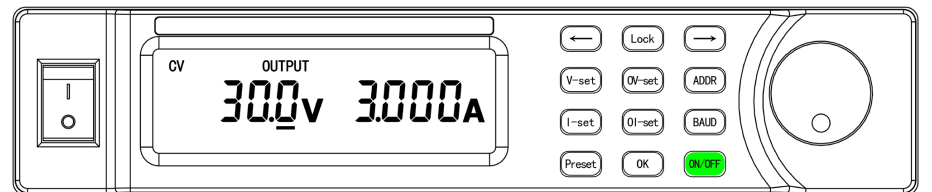

Fig.5-4
3. Press ON/OFF key to turn on output (refer to Fig.5-4). ON/OFF key lights up.
- As shown in Fig.5-4, there is an underscore in the voltage value. It means that the voltage value is under setup mode. The output voltage can be adjusted. Tune the adjustment knob to adjust voltage value. Use direction keys ← and → to move cursor to the next digit for adjustment.